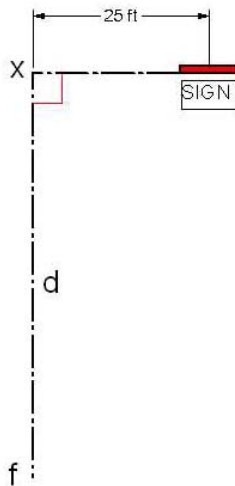

Figure 1.
- **Visibility** – Starting from a point “f” which is 4,980 feet from the front of the sign and 25 feet from the center, move towards the sign and record the distance “d” where the message or arrow mode was visible but not legible (Figure 1).
- **Legibility** - Starting from a point “f” which is 4,980 feet from the front of the sign and 25 feet from the center, move towards the sign and record the distance “d” where the message or arrow mode was legible (Figure 1).